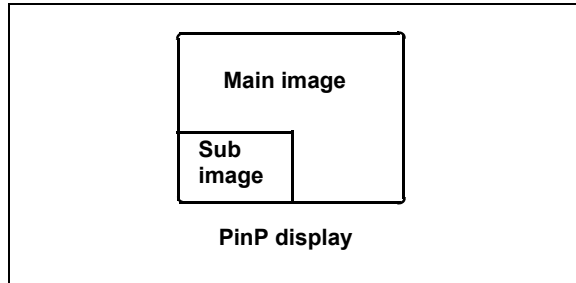

Figure 5.3
3. Press the "PinP" button. The sub image appears on the monitor (see Figure 5.3).